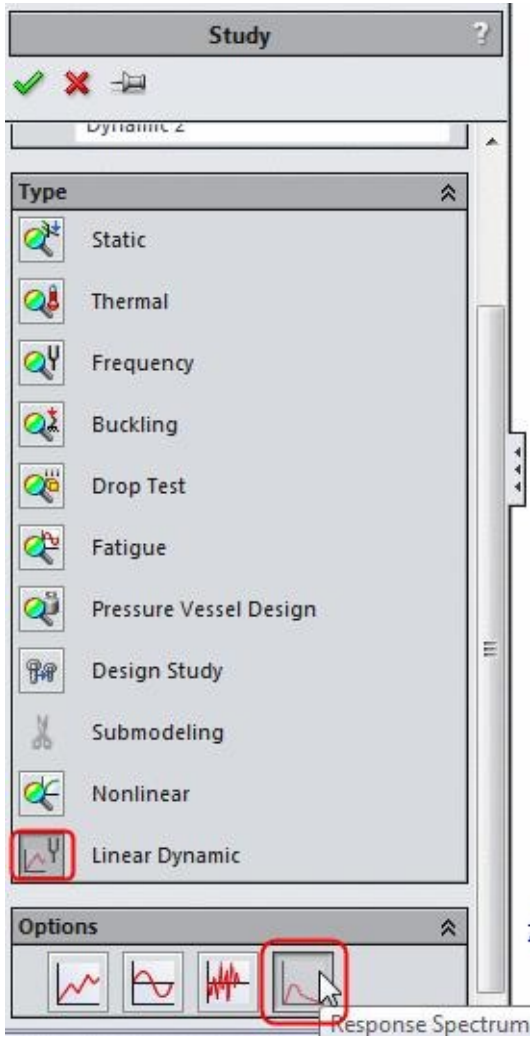

Figure-22. Response Spectrum Analysis button
- Click on the **Linear Dynamic** button and then on the **Response Spectrum Analysis** button from the **Options** rollout; refer to Figure-22.